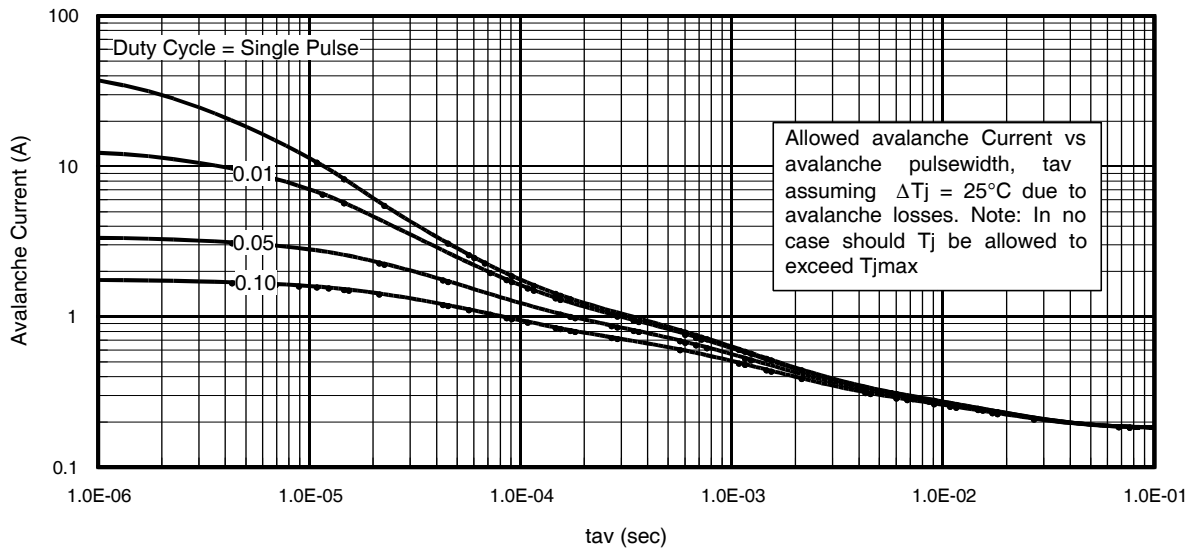

Fig 14. Typical Avalanche Current Vs. Pulsewidth
- ① Repetitive rating; pulse width limited by max. junction temperature. ④ R_{θ} is measured at T_J of approximately 90°C .
② Starting $T_J = 25^\circ\text{C}$, $L = 1.78\text{mH}$, $R_G = 25\Omega$, $I_{AS} = 12A$. ⑤ Limited by T_{jmax} . See Figs. 14, 15, 17a, 17b for repetitive avalanche information
③ Pulse width $\leq 400\mu s$; duty cycle $\leq 2\%$.
Notes on Repetitive Avalanche Curves , Figures 14, 15:
7. ΔT = Allowable rise in junction temperature, not to exceed T_{jmax} (assumed as 25°C in Figure 14, 15).